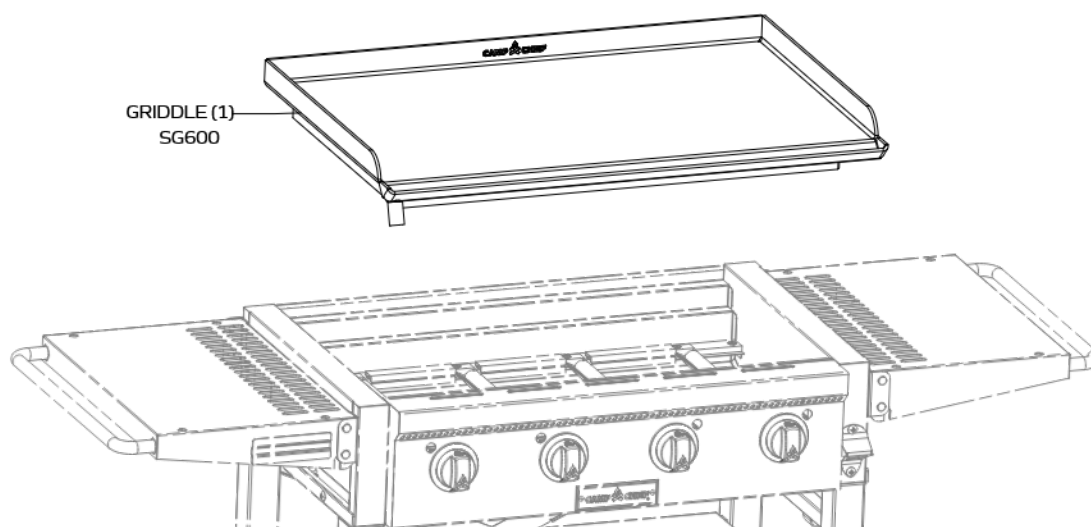

FIG 7
17. Install the griddle as shown in Figure 7.